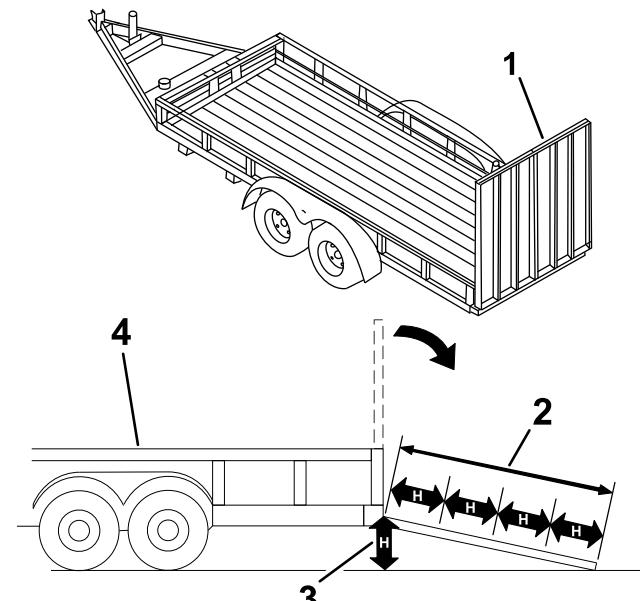

Figure 30
**Loading a machine onto a trailer or truck increases the possibility of tip-over and could cause serious injury or death (Figure 30).**
3. Lower the ramp (Figure 30).